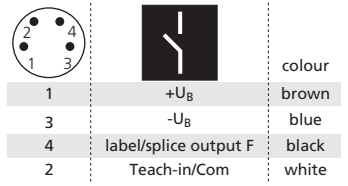
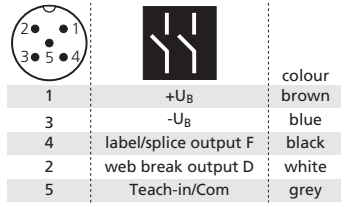

Fig. 1: Pin assignment of esf-1/CF and colour coding for microsonic connection lines
Fig. 2: Pin assignment of esf-1/7, CDF/A and colour coding of the microsonic connection lines
- Connect the connection line with the 4-pin M8 connector as shown in fig. 1, and with 5-pin M12 connector as shown in fig. 2.
If multiple esf-1 sensors are operated in tight space, they can influence one another. To avoid this, the esf-1 sensors can be synchronised. To do this, all Teach-in/com control inputs are connected together (see figs. 1 for the connector pinouts).